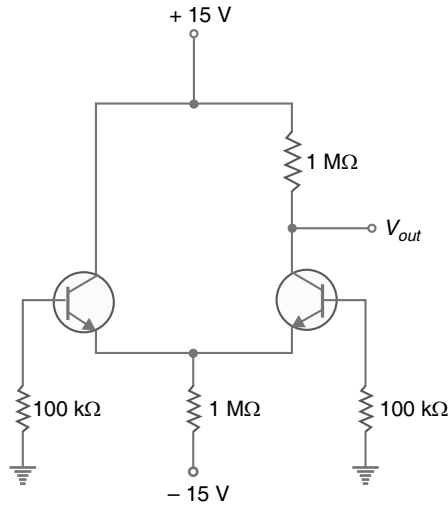

Fig. 23.26
**Example 23.13.** In Fig. 23.26, what is the output offset voltage if  $I_{in(bias)} = 80 \text{ nA}$  and  $I_{in(offset)} = 20 \text{ nA}$ ? Assume that voltage gain is  $A = 150$ . Assume only  $\beta_{dc}$  differences exist.